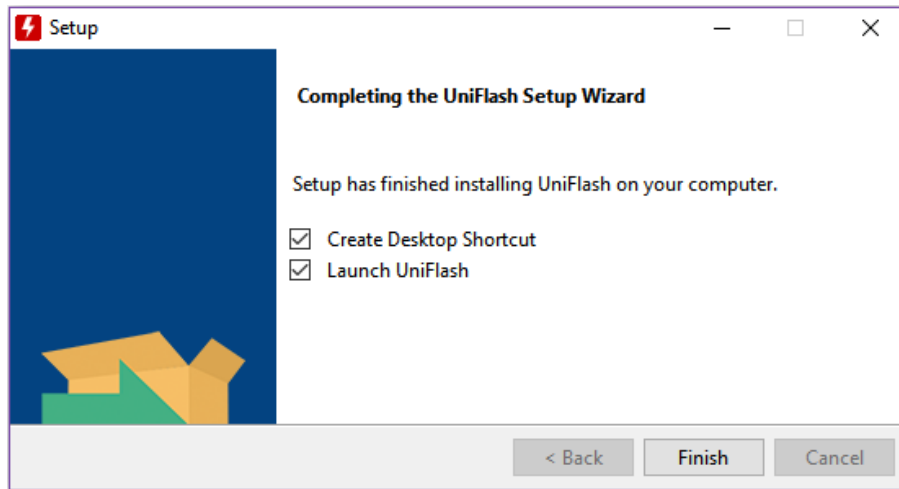
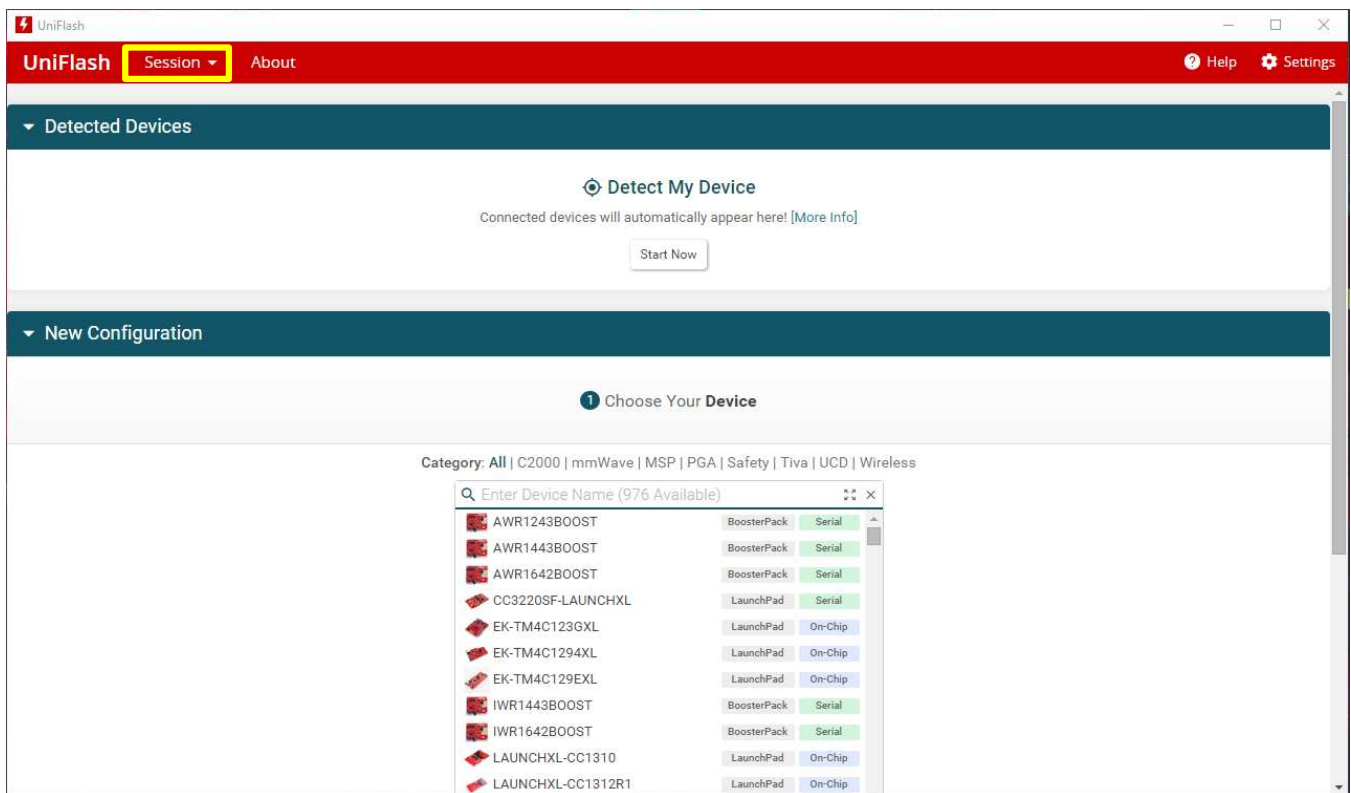

Figure 29. Setup Screen 17
Figure 33. UniFlash Programming, Step 1
The installed UniFlash program should have been already opened at the end of the software setup shown in Figure 29. If the UniFlash program is not open, launch the program. The window in Figure 33 will be opened.
1. Click on **Session** as shown in Figure 33